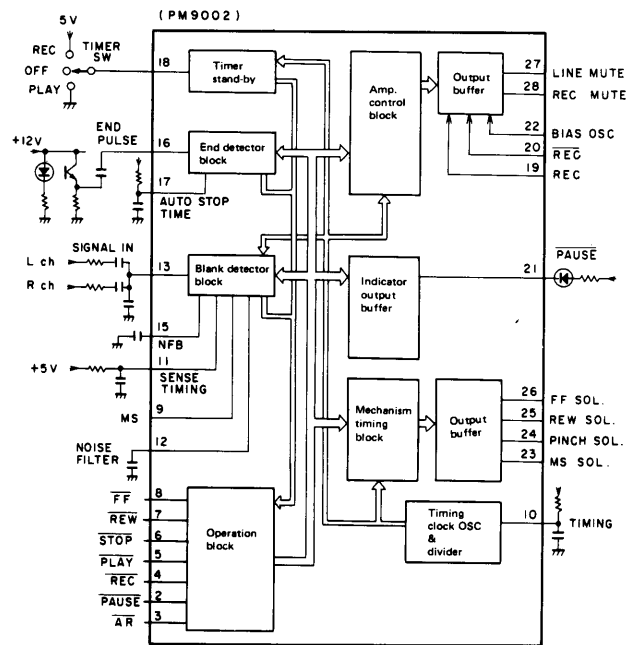
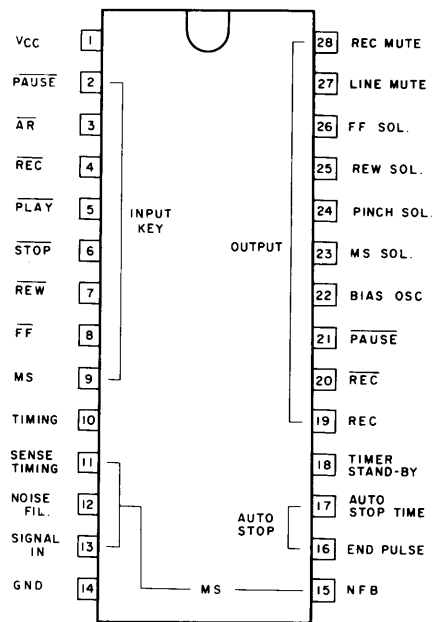
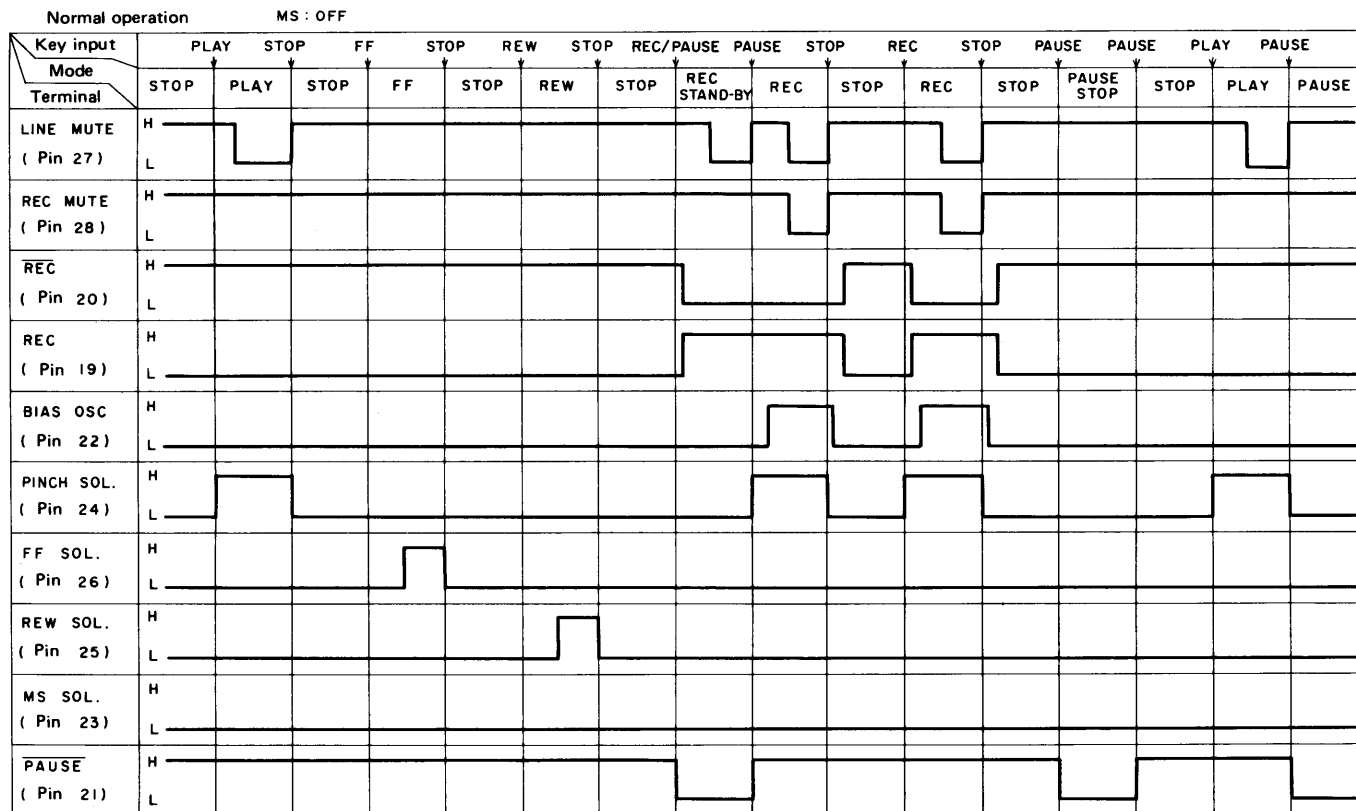

Fig. 4-2 PM9002A internal block diagram
Fig. 4-3 PM9002A pin layout
Fig. 4-5 PM9002A time chart (When MS switch is OFF)
The control circuit in this deck utilizes a one-chip IC (PM9002A) which enables feather-touch operations. In addition to mechanism control, this IC also includes music search (MS), auto-stop, and timer start functions. And due to the digital counter frequency divider system employed in timing settings for the mechanism control, all operational timing discrepancies have been eliminated. The PM9002A pin layout is shown in Fig. 4-3, the functional block diagram in Fig. 4-2, and the output pin time charts during different modes in Figs. 4-5 and 4-6. For interrelations